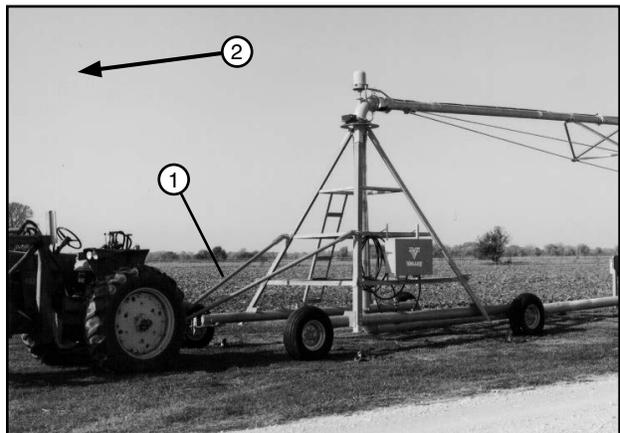

Figure 58-3 1. Tongue
10. If the pivot wheels are in line with the span, move the tongue to the side of pivot that faces the towing direction. See Figure 58-3. Then proceed to step 18 of these instructions.